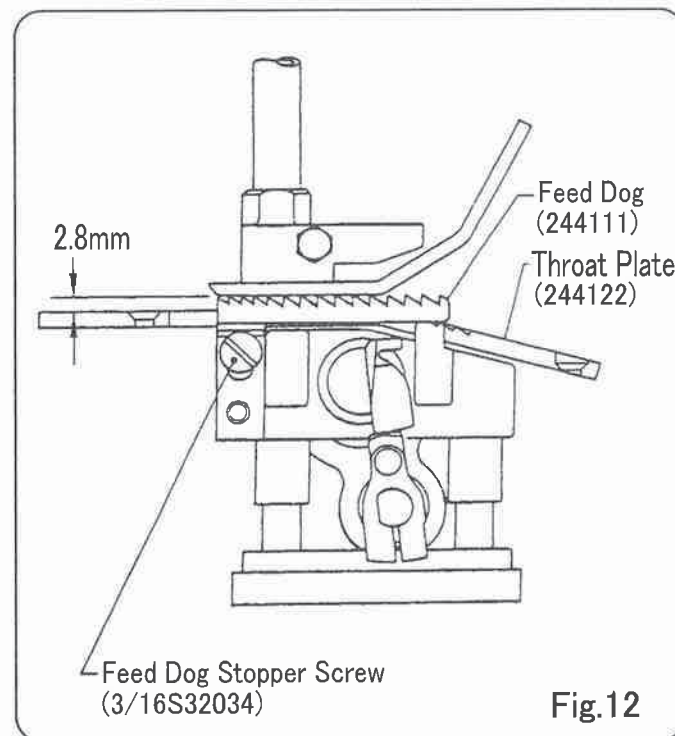

Fig.12
3. Position of Feed Dog (Fig.12)